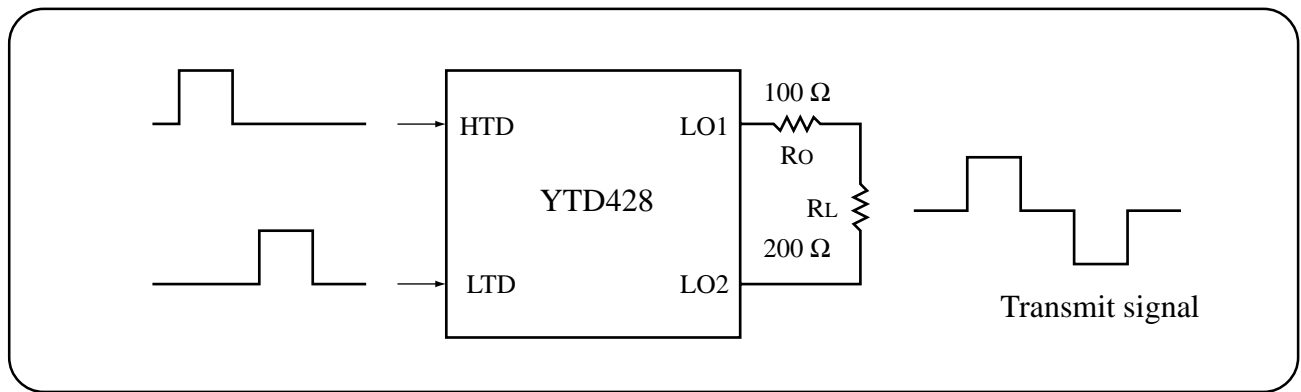

Figure 5.4 Transmit Block Test Circuit
**Note 1** Measuring with RL voltage drop as shown in Figure 5.4